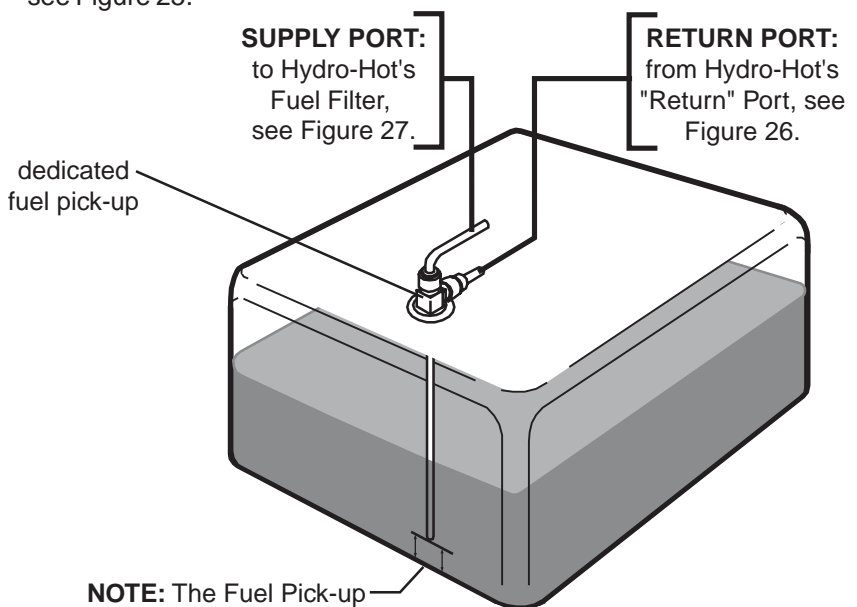

Figure 25
- A. The diesel fuel supply should be drawn directly from the Vehicle's main Fuel Tank or from a separate auxiliary Fuel Tank, if applicable. The Fuel Tank should be equipped with a dedicated fuel pick-up ("Supply" port and "Return" port), see Figure 25.
3. Connect the **Supply** and **Return** lines to the Fuel Tank / fuel pick-up, see Figure 25.
NOTE: See Figure 25 for details on Fuel Tank connections.